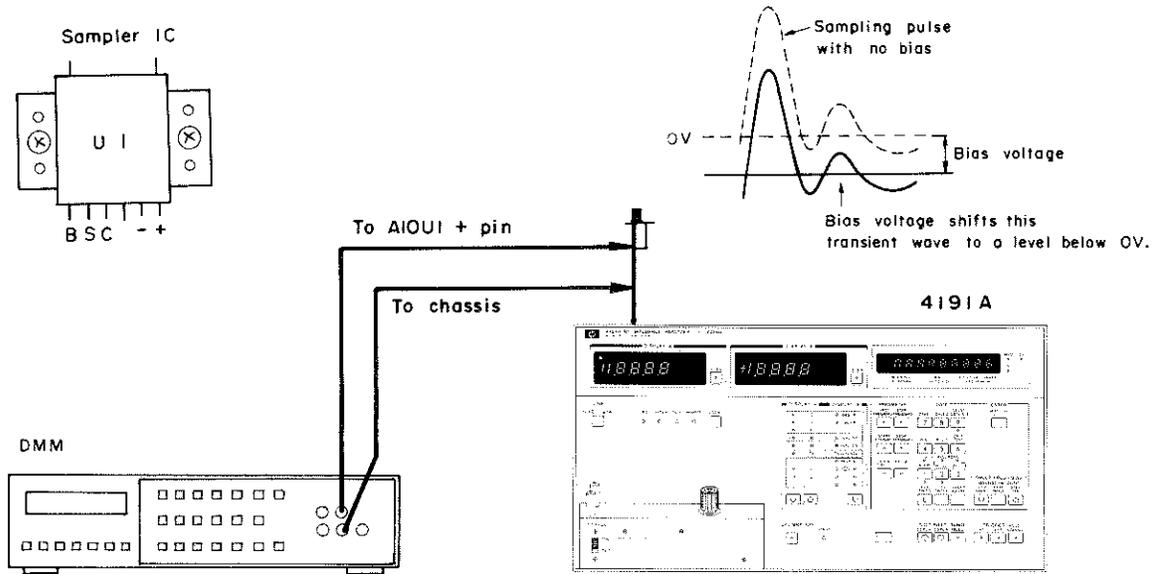

Figure 5-5. Sampler Diode Bias Voltage Adjustment Setup.
3. Connect the dc voltmeter (DMM) input cable to test point "+" on the A10 board and instrument chassis as shown in Figure 5-5.